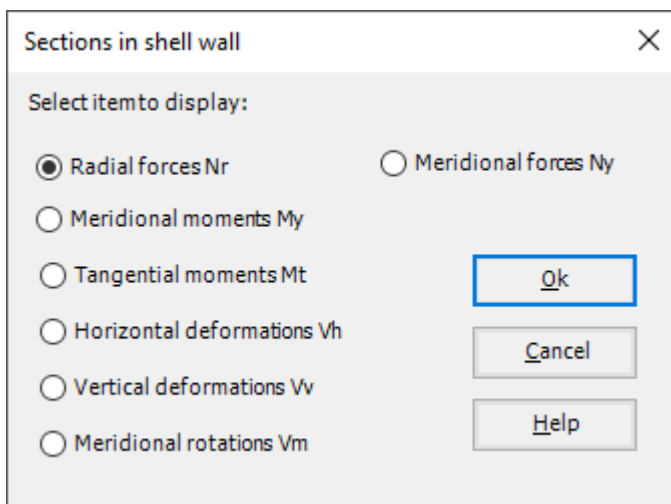

Figure 7.28 "Sections in shell wall" option box
- Choose "Sections in shell wall" command from "Section" menu. The following option box in Figure 7.28 appears